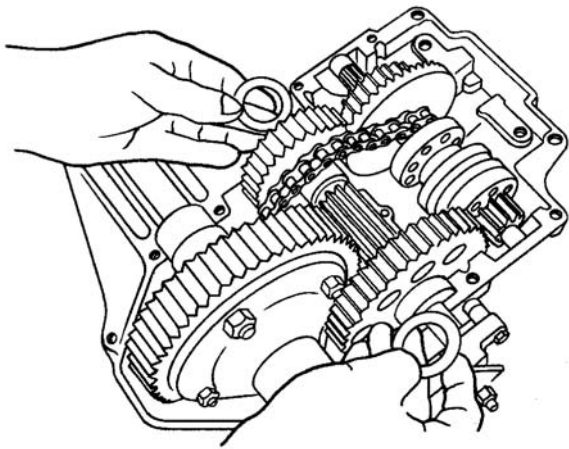

Figure 5-53. Placing Bearings Without Shims
1. When replacing the output shaft into the transmission, place the bearings on the shaft ends without the shim washers. See Figure 5-53.